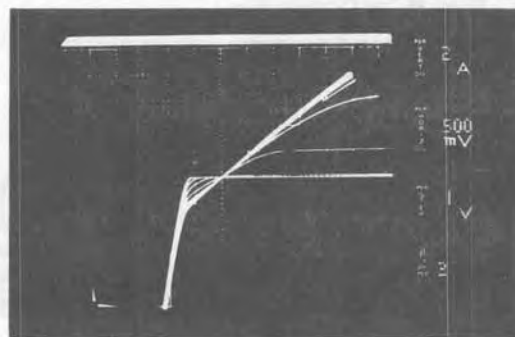
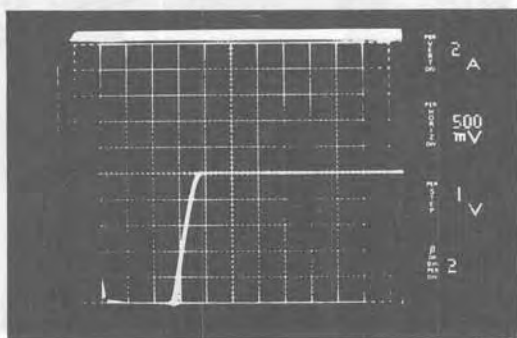

Figure 11. N-Channel Composite Characteristics
Figure 12. N-Channel Composite with no Gate Drive
- The device is connected using the LEFT/RIGHT switch. The VARIABLE COLLECTOR SUPPLY voltage is increased to obtain the required peak value of  $I_D$ . Beware of device heating. Figure 11 shows the trace obtained with the IRF630. To obtain the reverse characteristics of the diode alone, invert the step polarity. The FET is inoperative, and the display will resemble that shown in Figure 12. The step polarity should also be inverted to obtain the composite characteris-